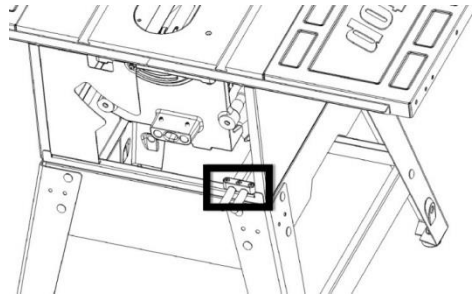

Fig. 1
10. On CNS saws it is necessary to increase the slack in the motor power cord in order to move the switchbox to the new mounting position. The first step is to remove the motor power cord from the strain relief on the rear of the saw (see **Fig. 1**). Remove the three screws that mount the strain relief to the rear of the saw frame. Remove the cord connected to the motor and replace the strain relief. Make sure the AC power cord is captured by the strain relief.